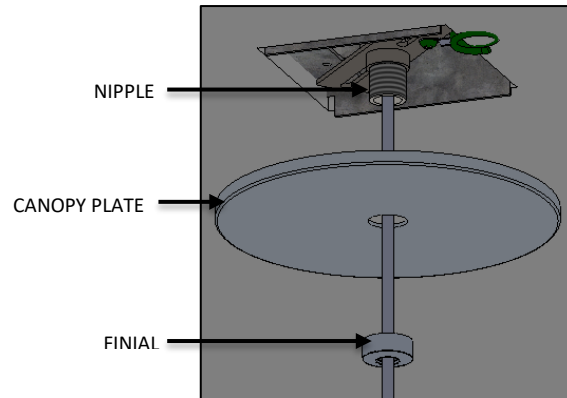

FIG. 32 – FINIAL ASSEMBLY
8. Raise CANOPY PLATE and secure to ceiling by threading the FINIAL to the NIPPLE (available in MOUNTING BRACKET ASSEMBLY) as shown below in FIG. 32.